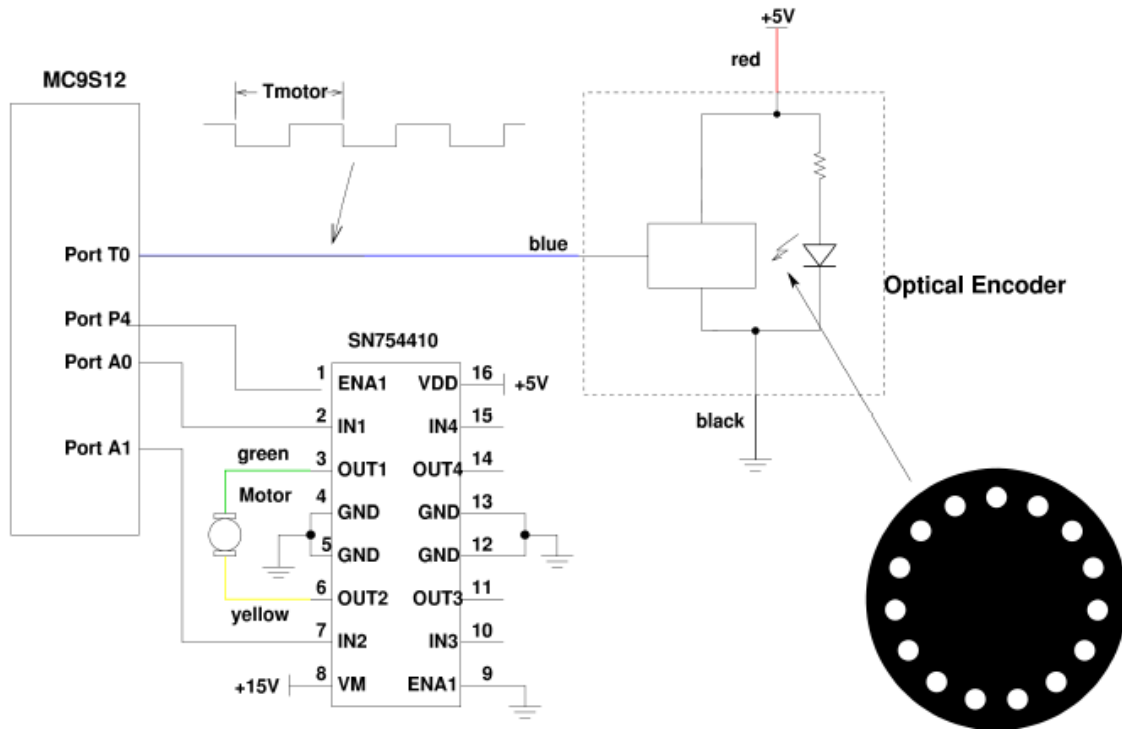

Figure 1: Using a PWM signal to adjust the speed of a motor.
In this lab you will control the speed of a motor. Figure 1 shows the hardware setup, which is the same as for Week 1 of Lab 4. You will use the potentiometer on your evaluation board to set the desired speed of the motor, and you will control the speed through the PWM output of the HCS12. You will measure the speed of the motor using an input capture pin, and display the desired and actual speeds on the terminal.
1. Build the circuit shown in Figure 1.